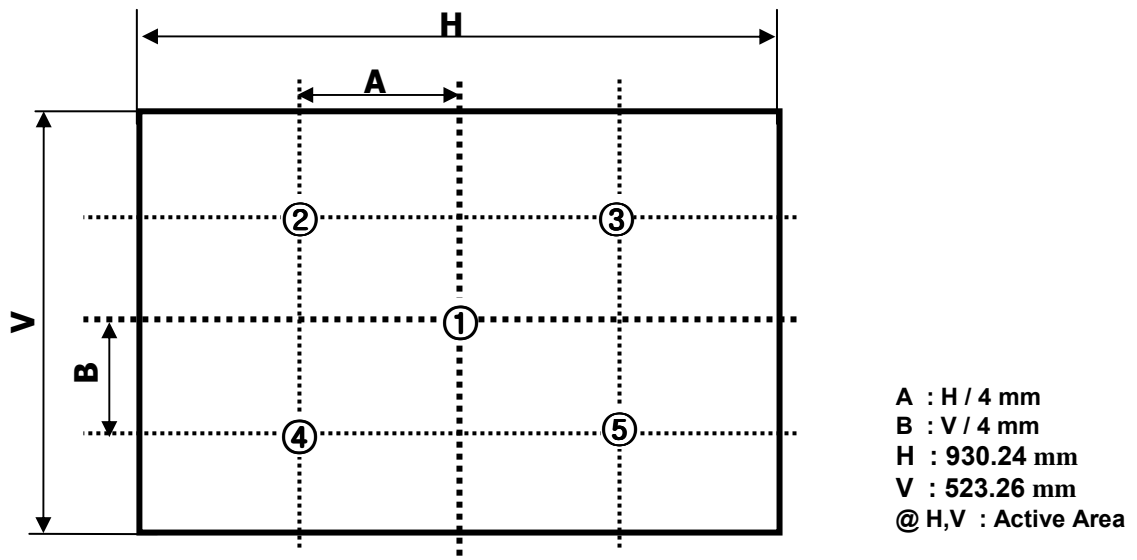

FIG. 2 5 Points for Luminance Measure
2. Surface luminance are determined after the unit has been 'ON' and 30min after lighting the backlight in a dark environment at $25 \pm 2^\circ\text{C}$. Surface luminance is the luminance value at center 1-point across the LCD surface 50cm from the surface with all pixels displaying white. For more information see the FIG. 2.
For more information, see the FIG. 2.